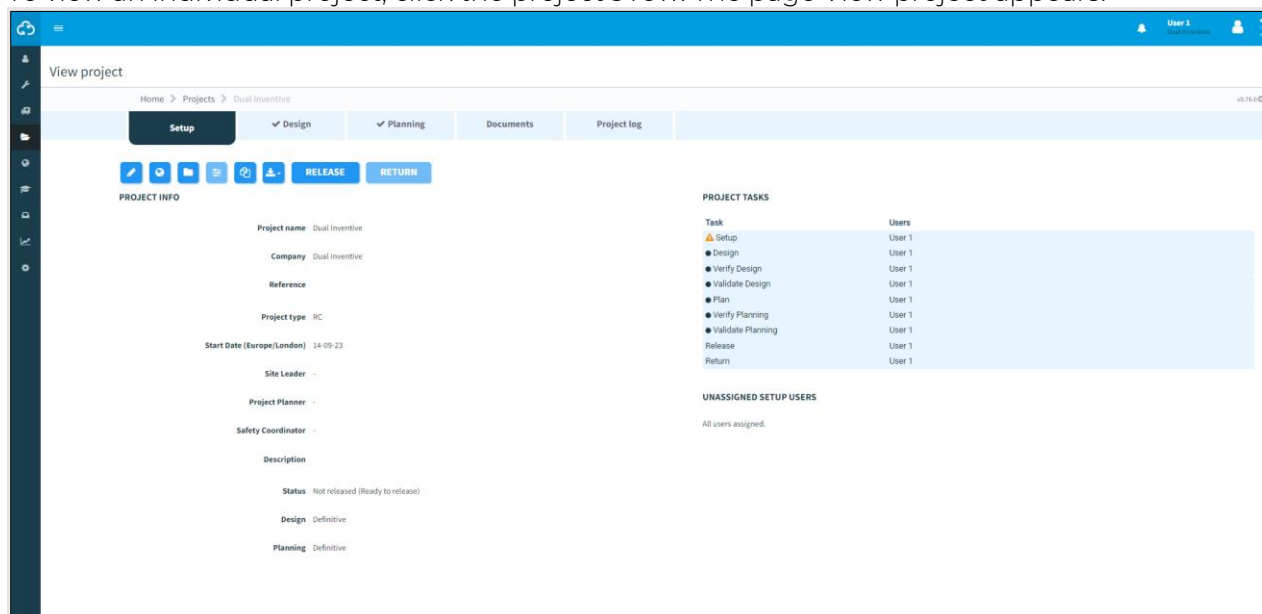

Figure 32 View project
1. Go to the page View project (Figure 32)